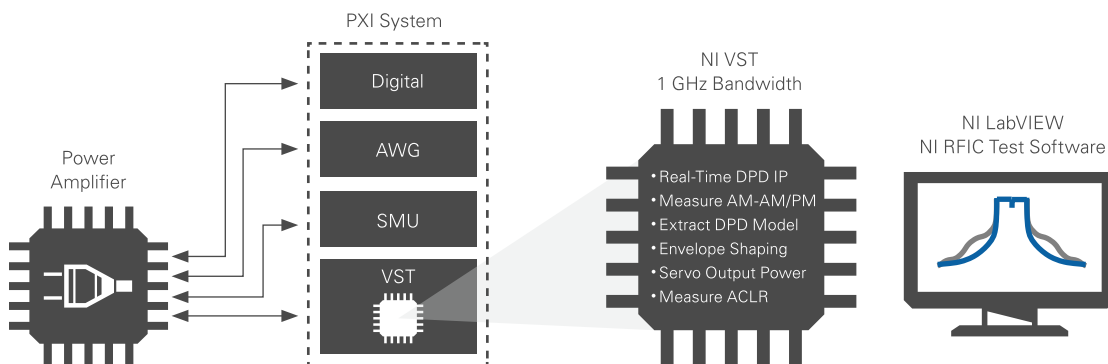

Figure 12. Typical Configuration for PA Testing Under DPD Conditions
An application that is distinctively solved through software-designed instruments such as the VST is PA testing in conjunction with a real-time DPD implementation. In RF power amplifier (PA) tests, many measurements such as EVM and ACP must be made under DPD conditions to better understand how the PA will perform in context of a complete mobile device. Figure 12 illustrates a typical test configuration for an RF PA.